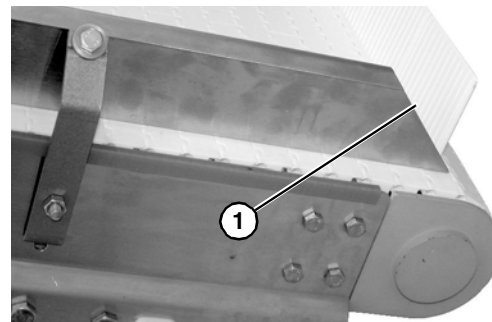

Figure 17
*When installing guides, be sure that the angled end of guide is installed on the idler end of conveyor (**Figure 17, item 1**).*